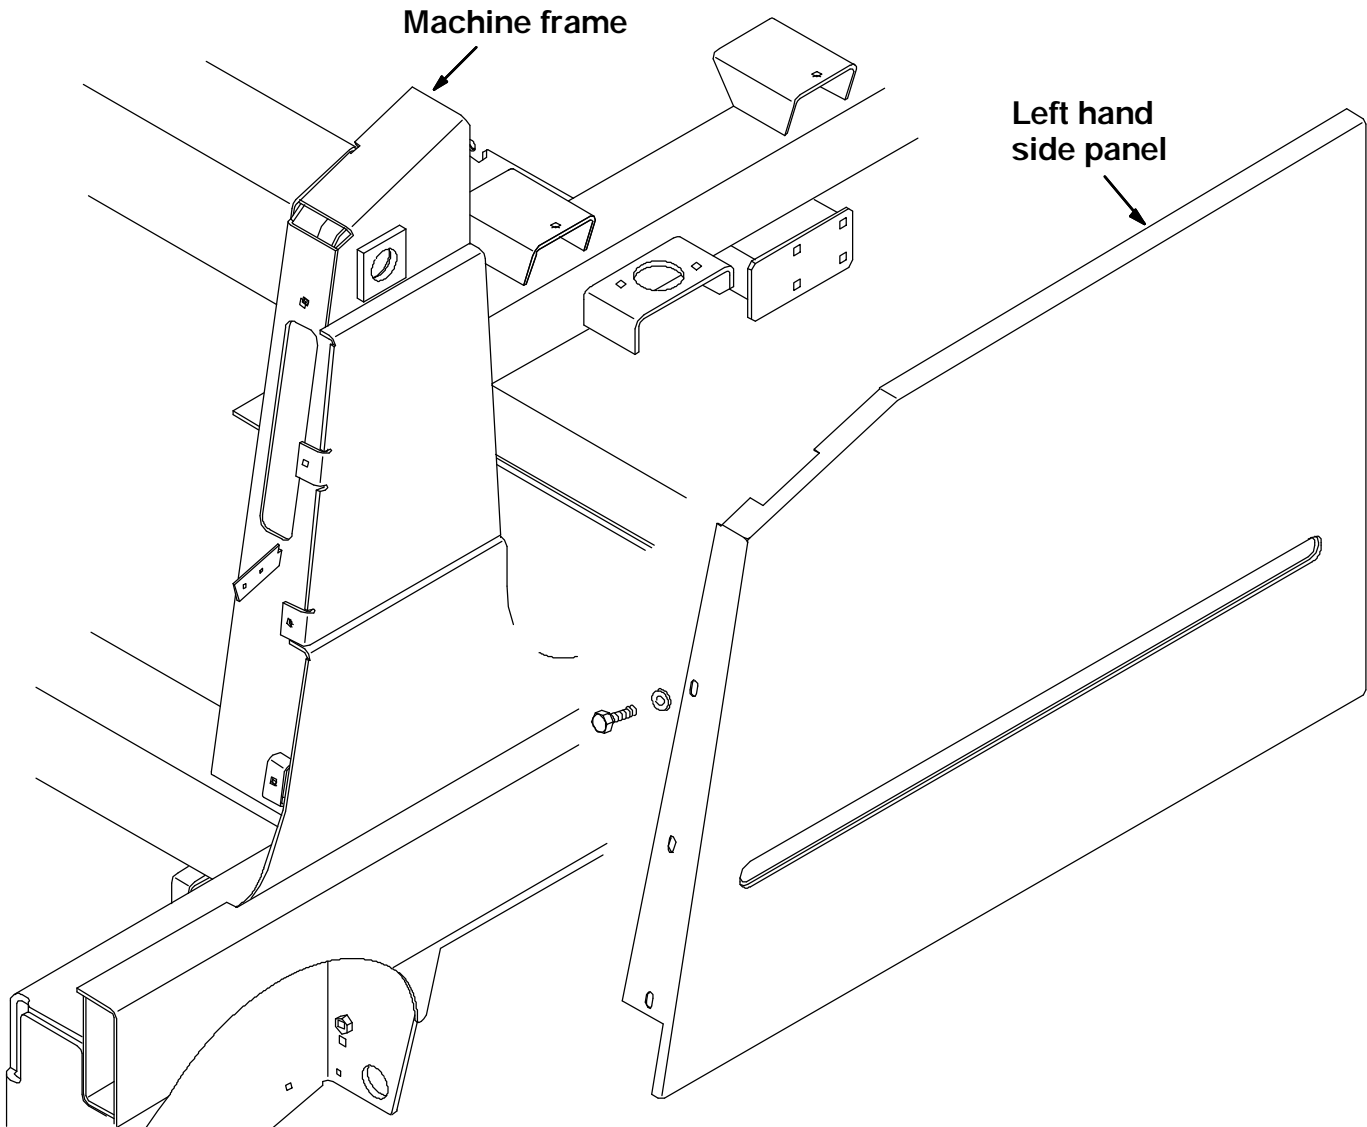

FIG. 1 - Left Hand Side Panel
(Refer to FIG. 1 and 2)
(Refer to FIG.1)
5. Remove the the five (8410), or three (8400) hex screws from the rear or hinge side of the left hand side panel. Remove the left hand side panel from the machine. (Refer to FIG.1)
15. Reinstall the left hand side panel and hardware. (Refer to FIG.1)